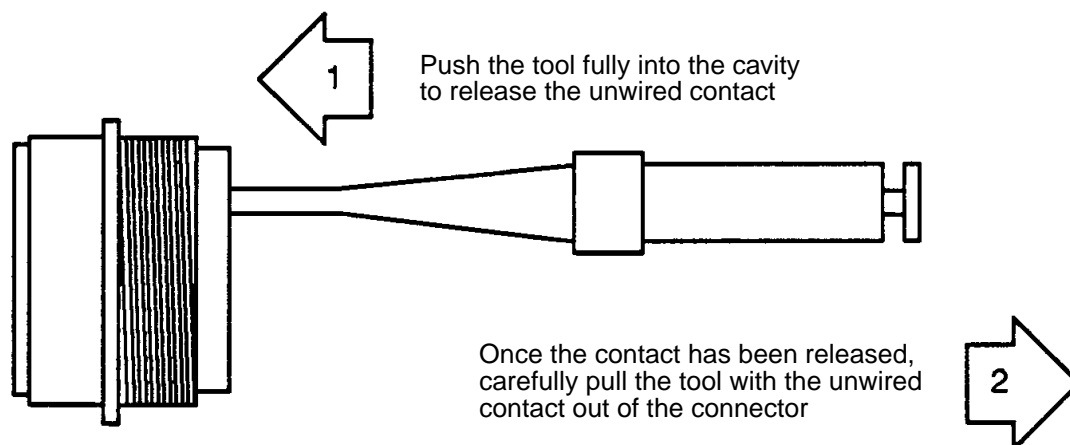

Figure 18 - Use of MS3448 Extraction Tool for Unwired Contacts
- Step 4. Carefully rotate while pushing the tool into the contact cavity until the tool tip bottoms against the contact shoulder to release the contact retaining clips (see Figure 18). Do not push the plunger in during insertion or removal of the tool.